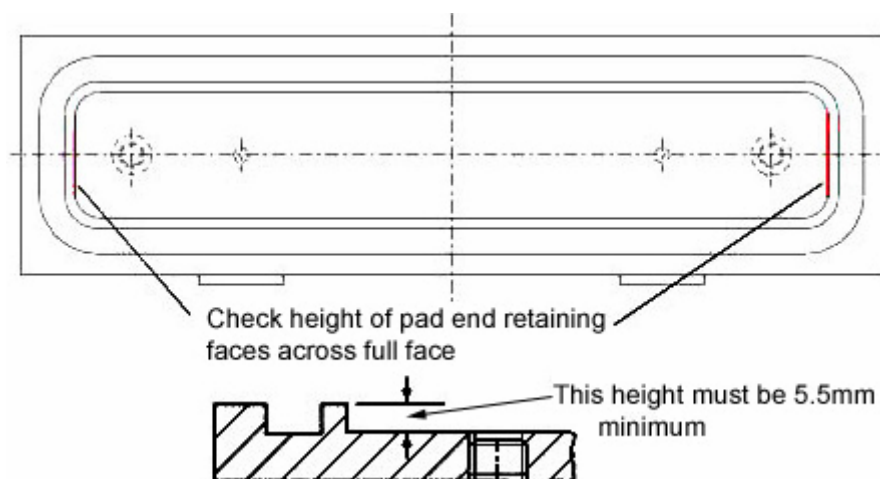

Figure 3: Side Bearer Holder
5. Check the height of the pad end retaining face, see Figure 3, using a depth gauge.